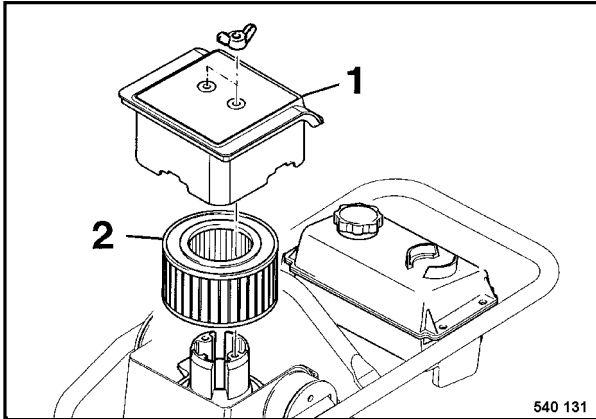

Fig. 1
- Remove the cover 1 (Fig. 1), take the filter cartridge (2) carefully out.